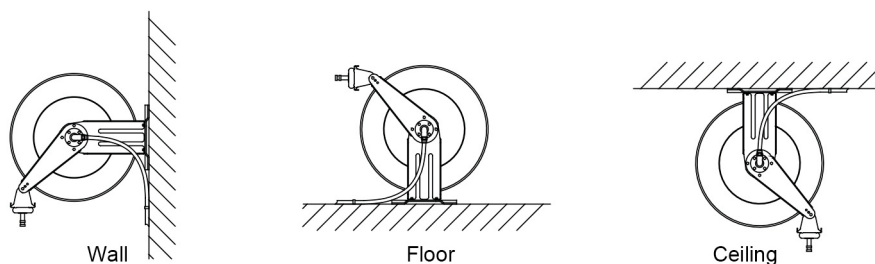

FIG. 2
- b) The reel is supplied with a hose guide roller bracket. The bracket position may be changed depending on the reel mounting position. Figure 2 shows "Typical Mounting positions". If the bracket position needs to be changed, do the following:
- (1) Pull out some hose and let the reel latch.
- (2) Remove the bolts that attach the guide roller bracket to the support post.
- (3) Rotate the guide roller bracket to correct position, replace bolts, and tighten.